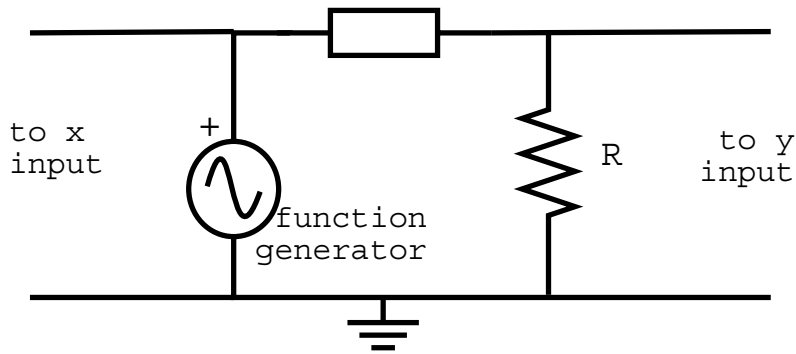

Figure 30: Wave shaping circuit
Figure 30 shows a simple wave shaping circuit with a square wave input. The device in the rectangle in this figure may be either a capacitor or an inductor or both in series. Depending on the frequency of the input, the output may be a slightly distorted square wave or a completely different waveform.
2. If you have not already done so, construct a high-pass filter as in Fig.30, using a capacitor as the un-named device.